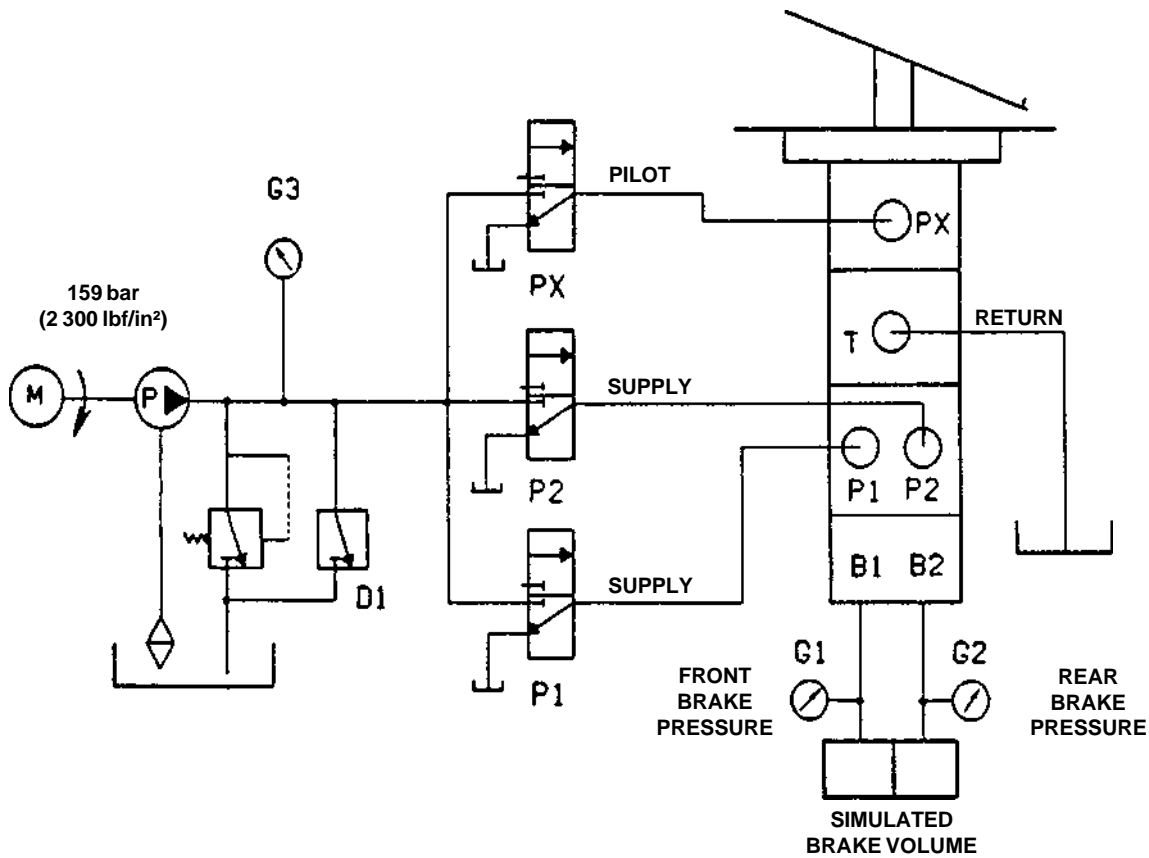

Fig. 9 - Typical Test Fixture
**Note:** A hydraulic test fixture with capabilities similar to the one shown in Fig. 9 is required.